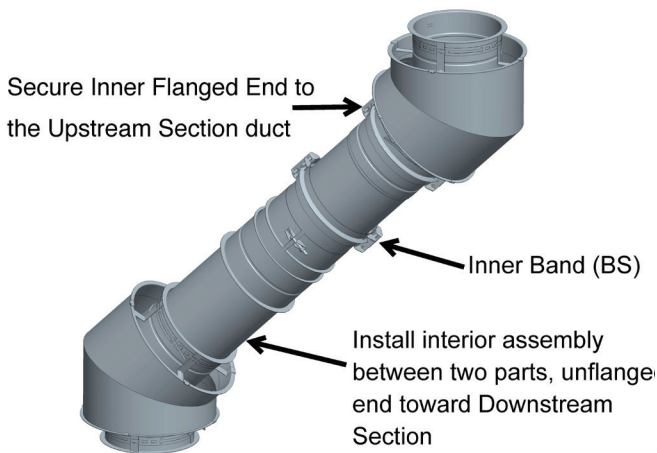

Figure 36 -Step 4-5- Install the inner LV and secure the outlet end flange
Step 5-Assemble the outlet end sliding innerwall to the outlet end section as a regular section (See JOINT ASSEMBLY section). See **Figure 36**.